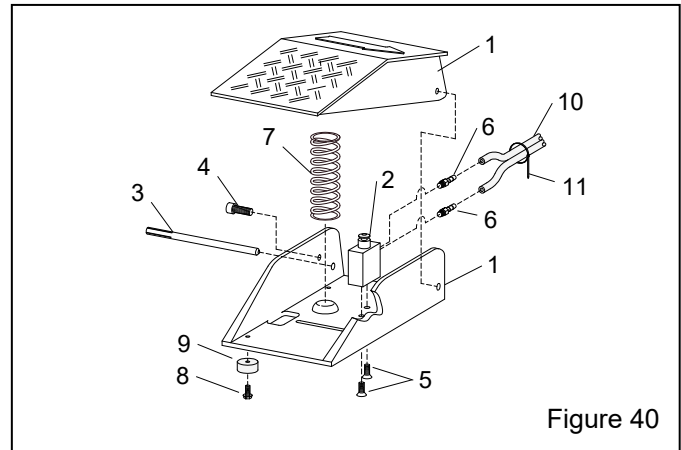

Figure 40
**9.7 Foot-Pedal Assembly – Figure 40**